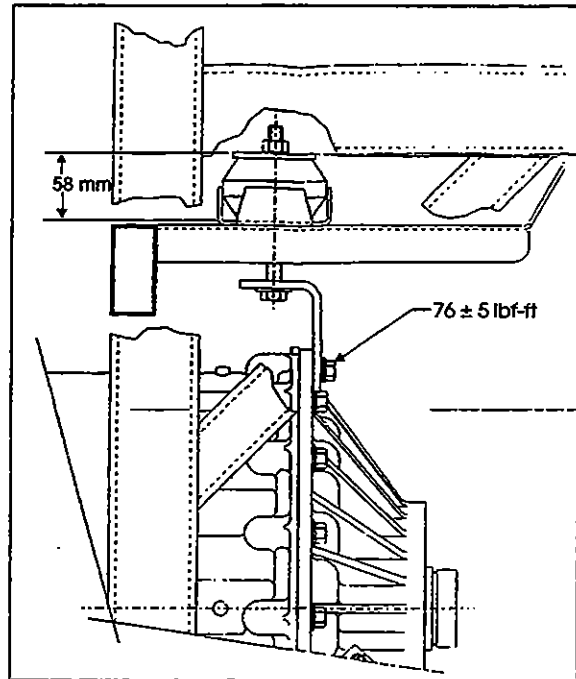

Figure 17: Rubber Damper Tolerance
- Install the transmission rubber damper assembly above transmission by assembling: bolt, washer, rubber damper guide, rubber damper, bushing and nut. Respect rubber damper tolerance (Fig. 17).